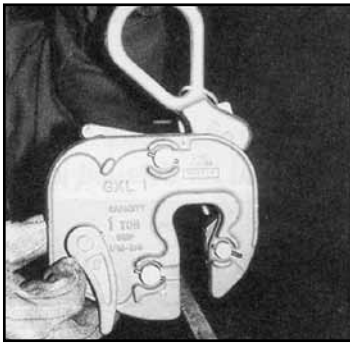

Figure 27
- A. Lower the clamp onto the plate with the lever in the “lever open” position until clamp rests on plate (Fig. 27). Occasionally, a cam may jam against a pad. To release, either tap the heel of the shackle, or grasp clamp by the shackle and tap bottom of clamp sharply against floor or other solid surface.
- A. Place the clamp on the plate with the lever in “lever open” position and the short leg under the plate (Fig. 27). Occasionally, a cam may jam against a pad. To release, either tap the heel of the shackle, or grasp clamp by the shackle and tap bottom of clamp sharply against floor or other solid surface.